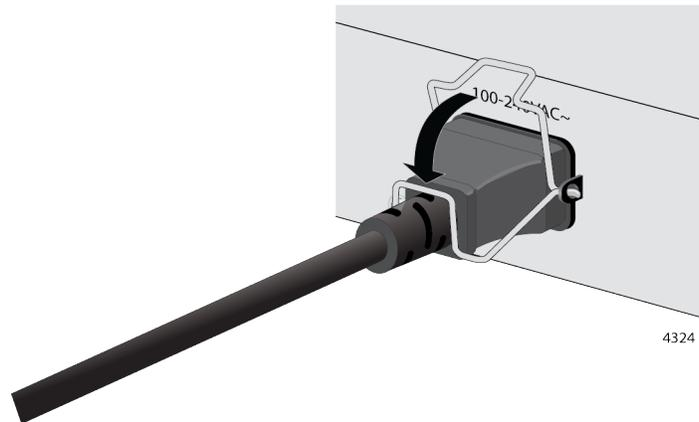

Figure 39. Lowering the Retaining Clip
4. Lower the retaining clip to secure the power cord to the switch. See Figure 39.